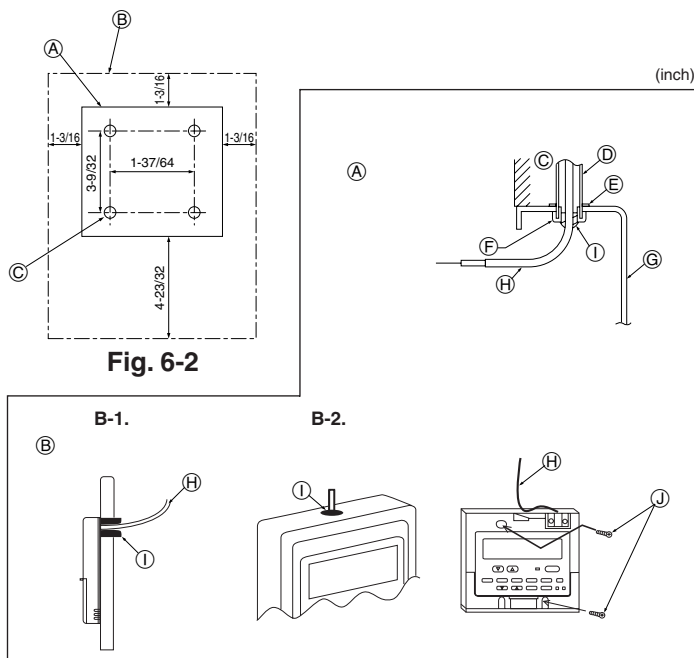

Fig. 6-2
(1) Select an installing position for the remote controller. (Fig. 6-2)